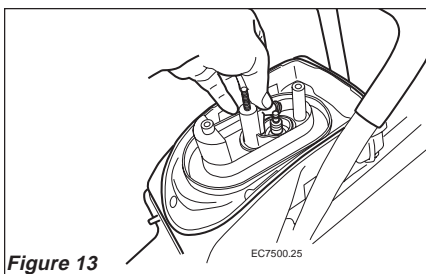

Figure 13
4. Remove the plug cap and disconnect the spark plug by using the plug wrench. See Figure 13. Check to see if the spark plug electrode is fuel-soaked.